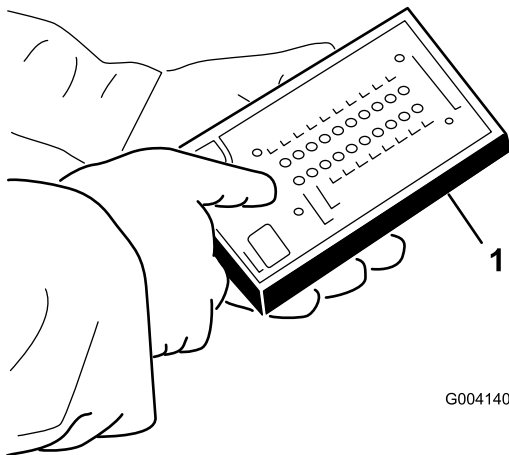

Figure 28
5. Connect the Diagnostic ACE display connector to the harness connector (Figure 28).